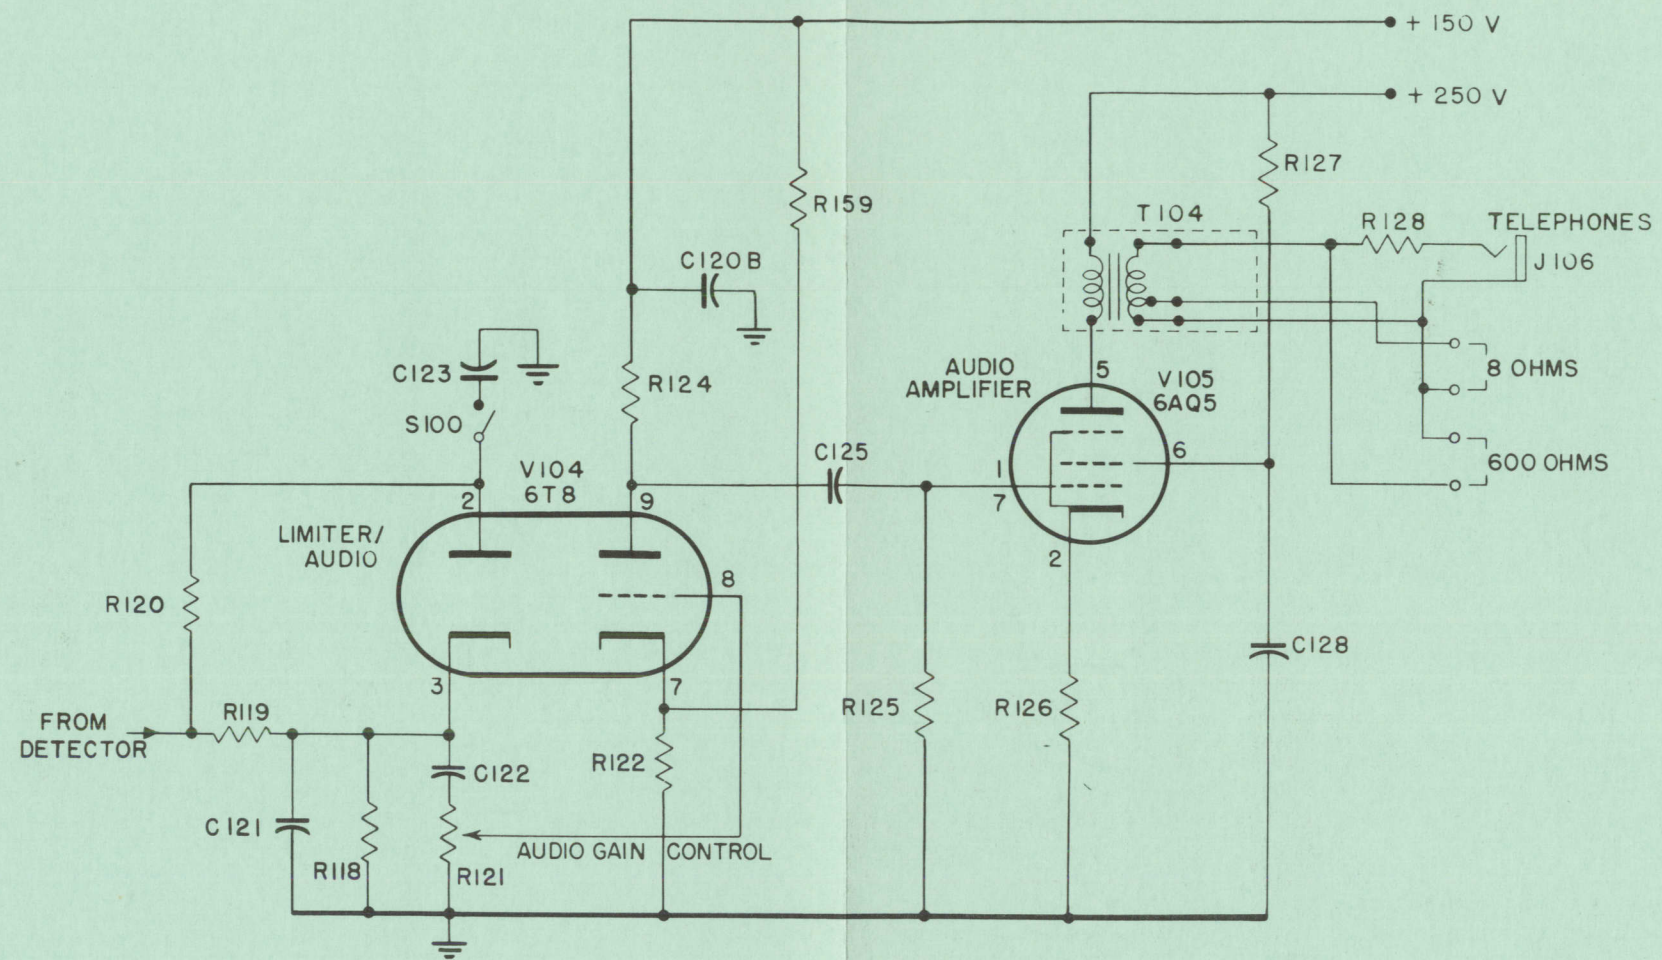

Figure 5 Simplified Schematic Diagram (with Squelch),
- Figure 5 Simplified Schematic Diagram (with Squelch), Limiter-Audio Circuit, R-5007/FRR-502